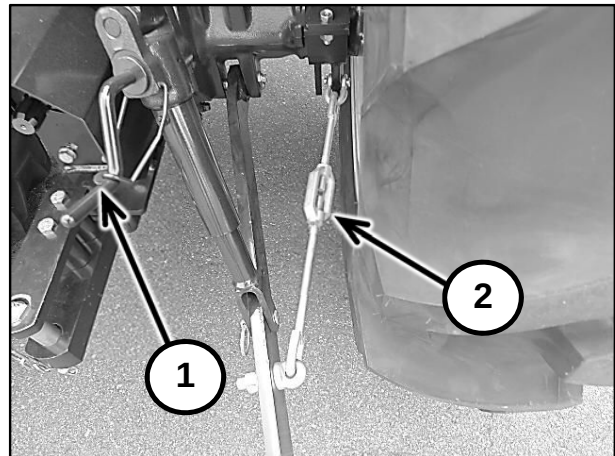
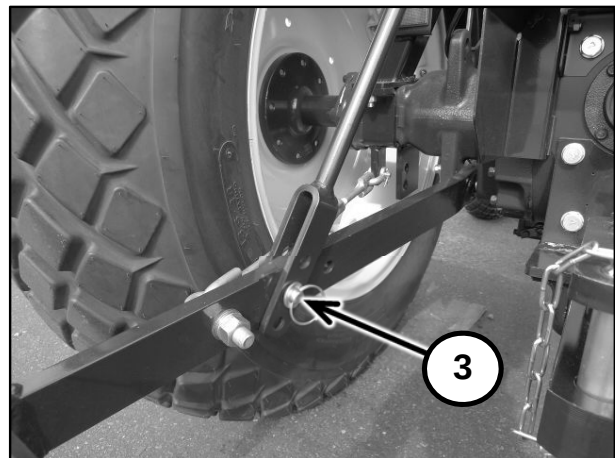

Figure 2-42
Figure 2-43
The three point linkage has adjustable stabilizers to control lateral movement of the lower lift arms. Loosen the lock nut and turn the adjuster (2) in Figure 2-42, to shorten or lengthen the stabilizer, then re-tighten the lock nut.
The height of the right-hand lift arm can be adjusted by turning the handle (1) in Figure 2-42, on the lift rod. To adjust the height of the left-hand lift arm re-position the attaching pin (3) in Figure 2-43, in one of the alternative holes in the lift rod.